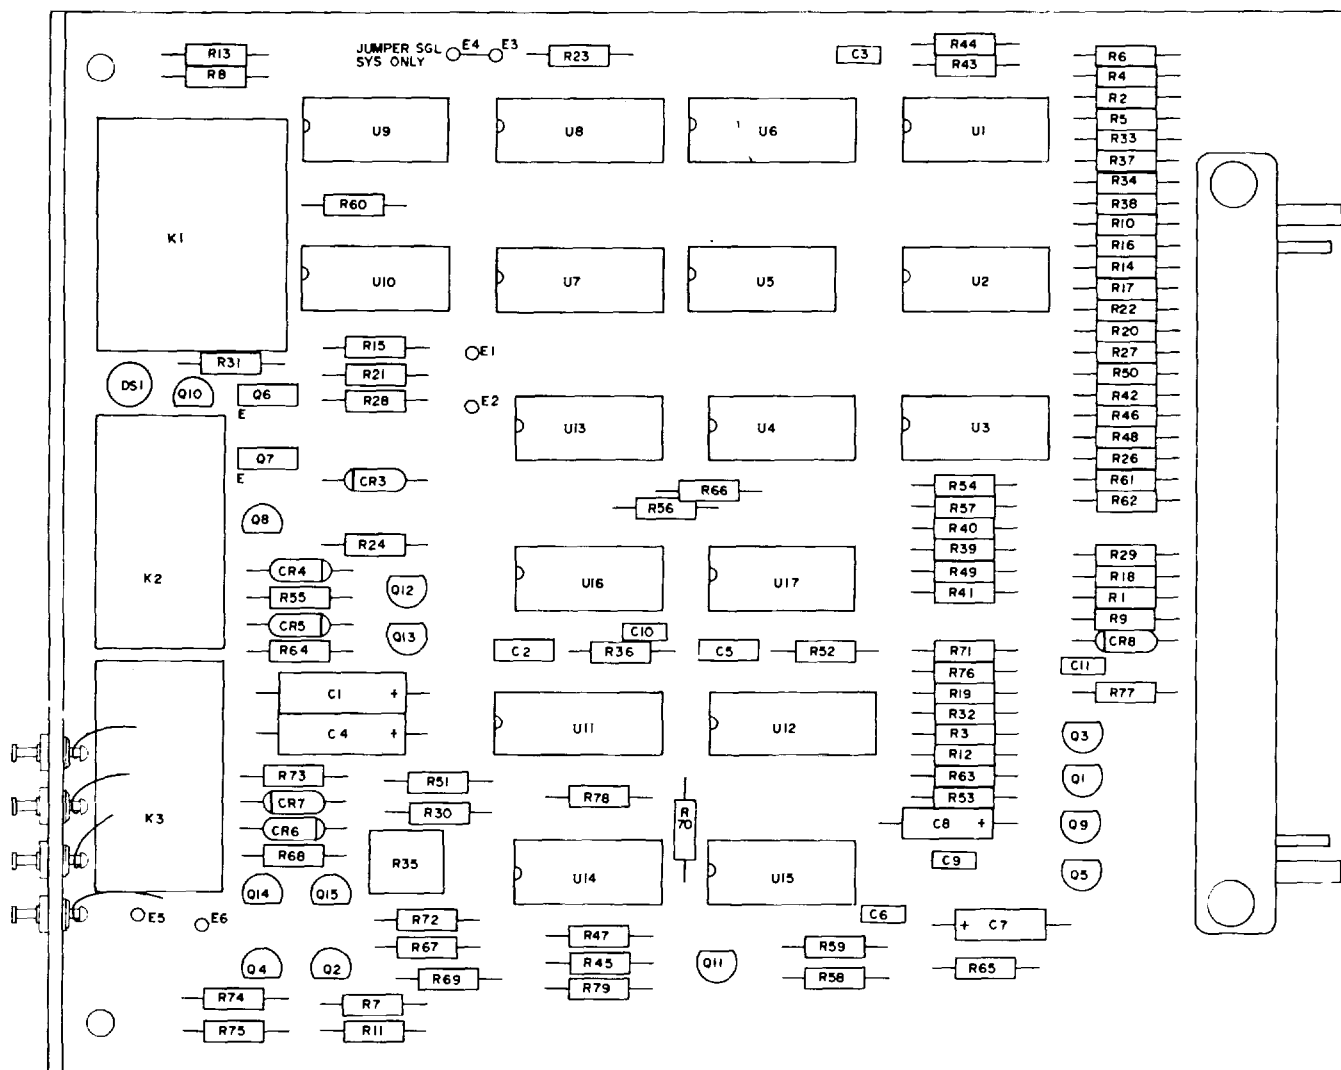

**Figure 4-2. Tone Decoder Circuit Card Assembly, 1A2A1**
b. Tone Decoder Circuit Card Assembly (1A2A1) Disassembly. This circuit card assembly should be removed only when servicing or component replacement is required. To remove this circuit card assembly, grasp both edges of the card and pull up. Further disassembly should be limited to removal of parts for repair or replacement. Refer to figure 4-2 for location of component to be replaced.